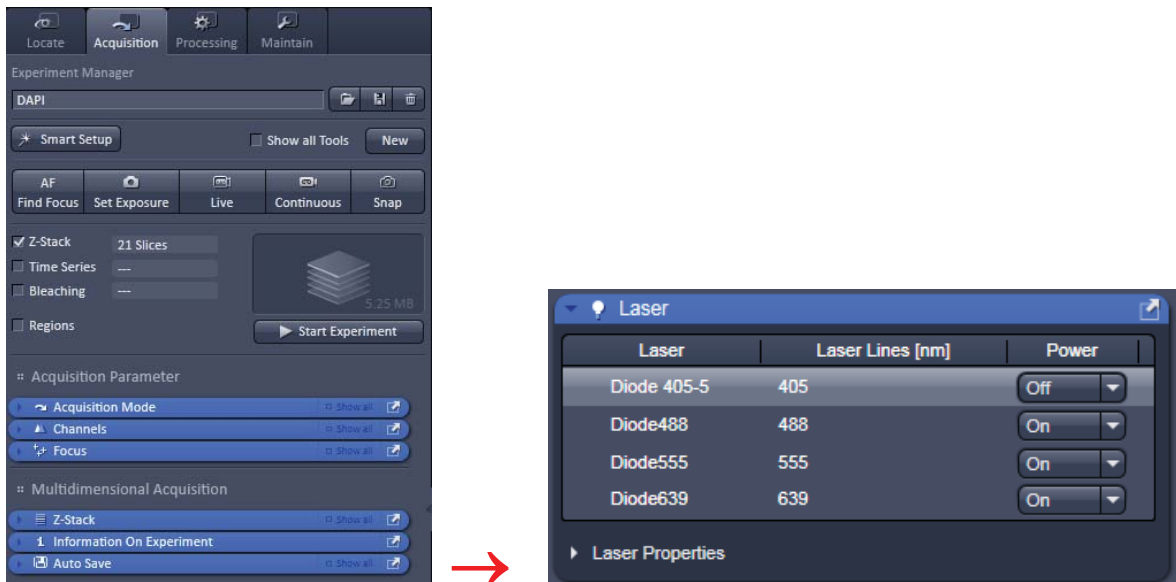

Fig. 10 Laser Control tool
- To manually switch lasers on or off, click the **Show all tools** tick box and open the **Laser** tool. All available lasers can be operated within this tool (Fig. 10).